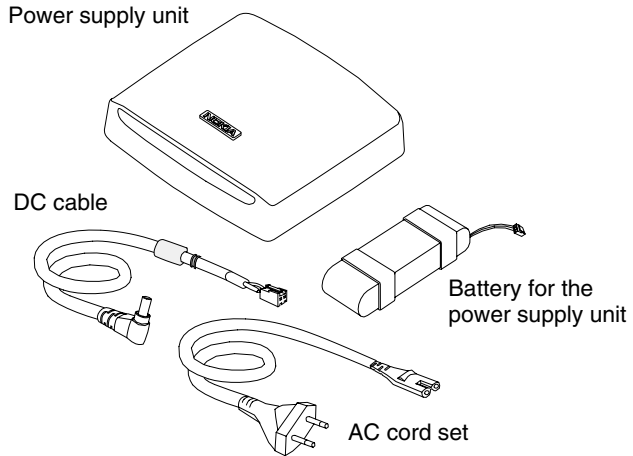

Figure 2. Power supply unit package contents
- Figure 2. Power supply unit package contents **11**